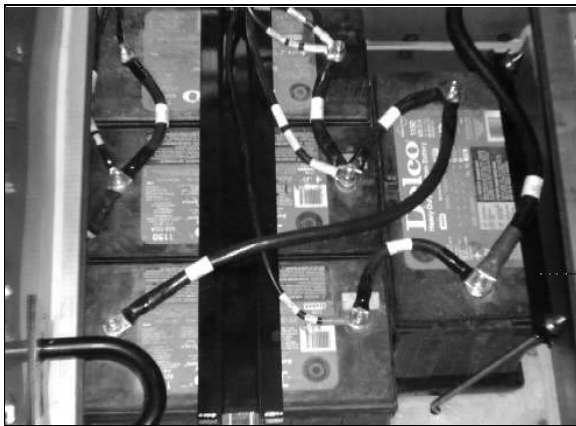

FIGURE 16: BATTERIES
The vehicle is provided with four (4) maintenance-free 12 volt heavy-duty batteries connected in series-parallel (Fig. 16). The top-mounted negative and positive terminals are tightly sealed to prevent leaks. Water never needs to be added to this type of battery. There are no filler caps in the cover. The battery is sealed, except for small vent holes in the cover. The vents must not be restricted as they allow small amount of gases that are produced in the battery to escape. The special chemical composition inside the battery reduces gassing to a very small amount at normal charging voltages. Besides reducing gassing, the special chemistry greatly reduces the possibility of overcharge damage.